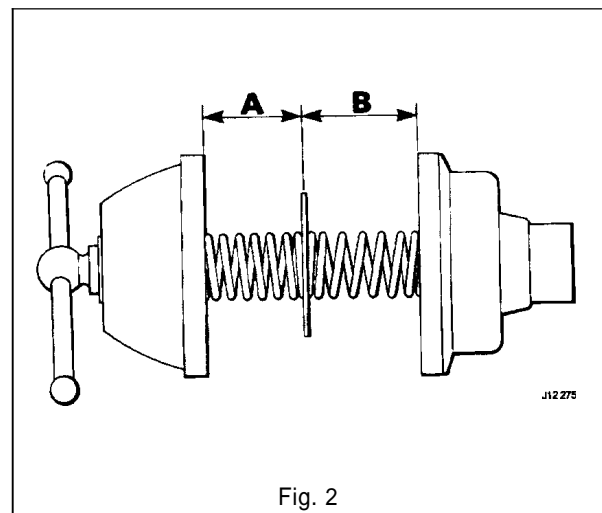

Fig. 2
- Fit the bearing caps, washers and securing nuts (1, 2 Fig. 2).